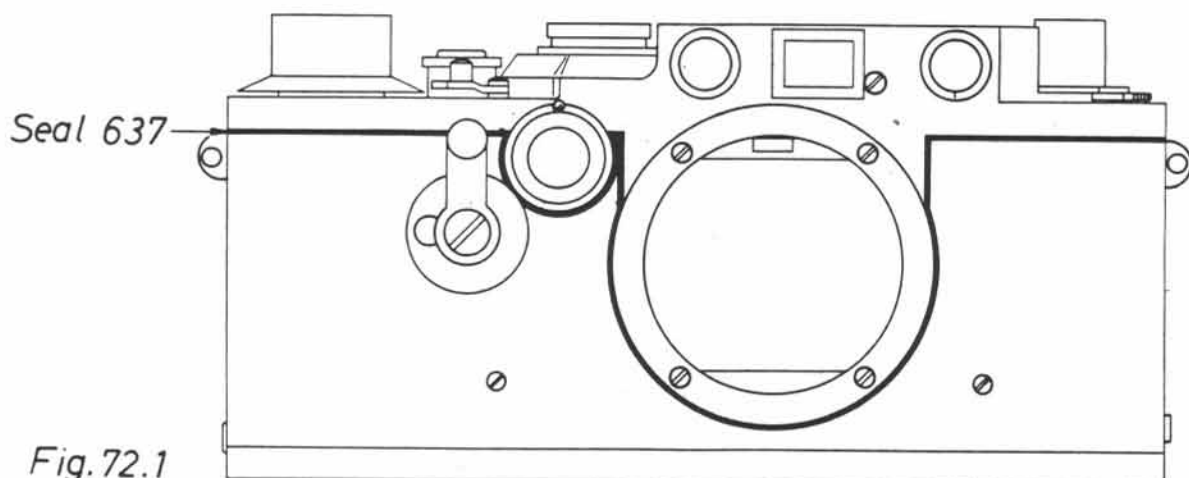

Fig. 72.1
2. After fitting the housing and the cover plate, seal off all gaps between the cover, slow speed setting knob and screw mounting ring on the one hand, and the leather covering of the housing on the other (see fig. 72.1).